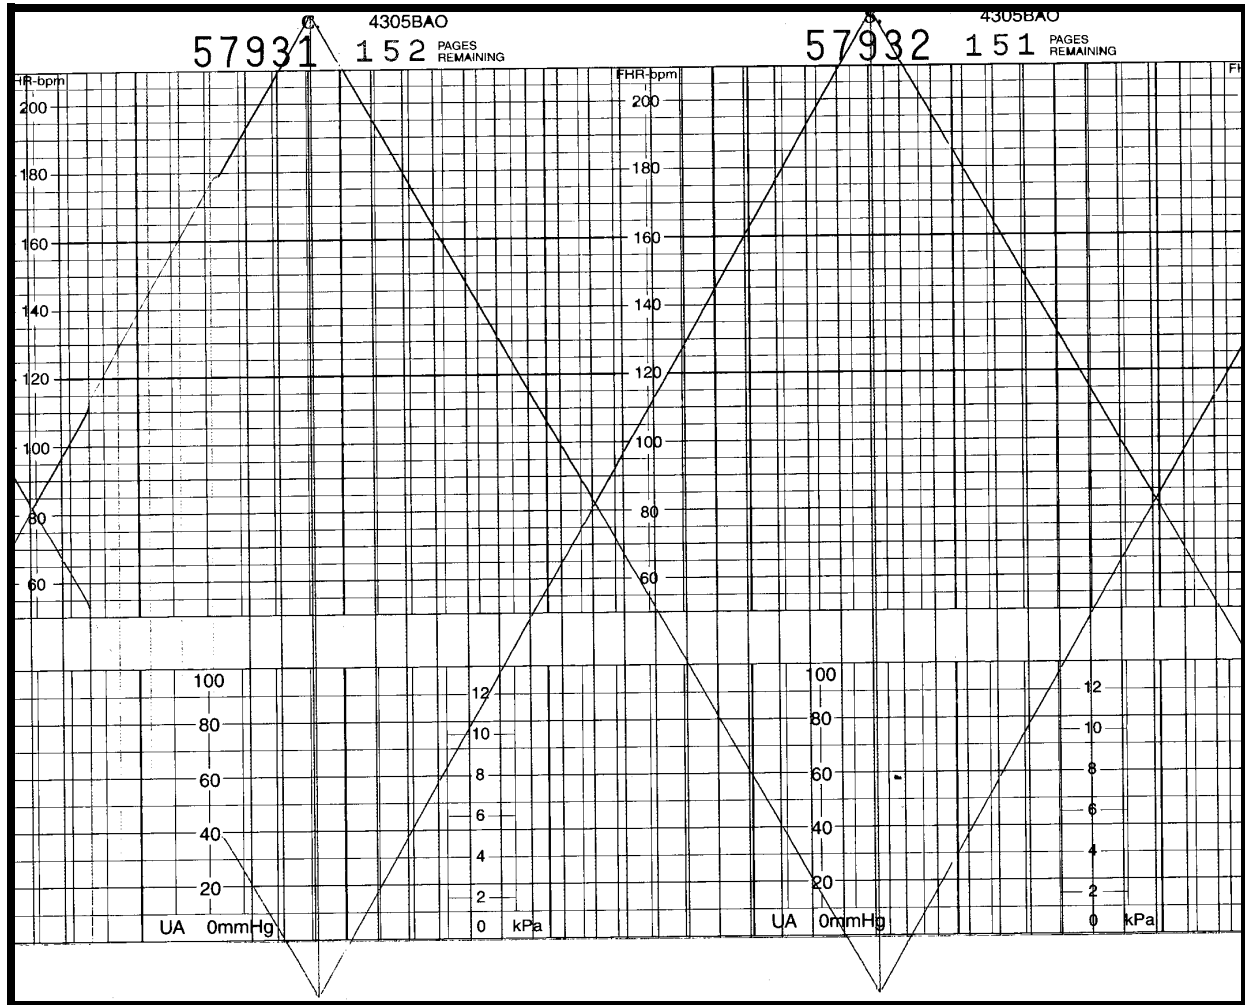

Figure 7-14. Recorder Test Pattern
4. Press the **UA Reference** button  to activate the FHR display and start printing the test pattern. See Figure 7-14.